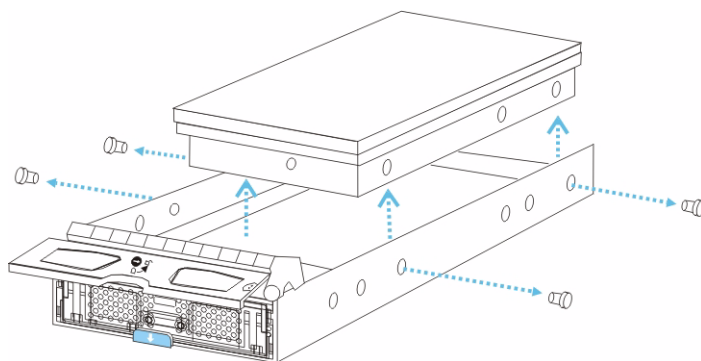

Fig. 6.22 Removing the SATA Hard Drive
5. Remove the four (4) retention screws located on the sides of the drive tray (two on each side.) (See *Figure 6.22*)